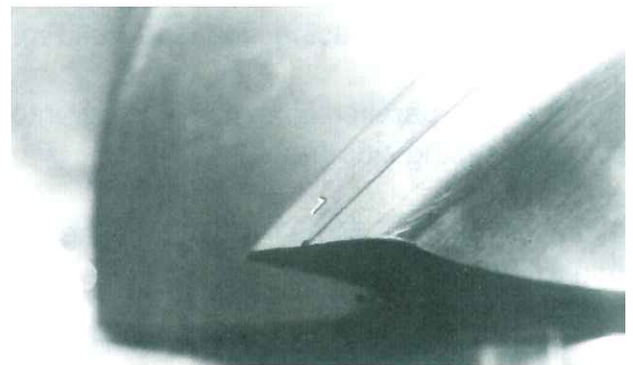

Fig. 98 Die-mark on Female Rotor Leading Edge
2) The male and female rotors should be mated according to the specified combination. With four and six lobes respectively, two possible mating combinations are possible. The numbers (1) and (2) are stamped on suction side of the female rotor lobes (Fig. 98). The figure (1) is stamped on the discharge end of a male rotor lobe.